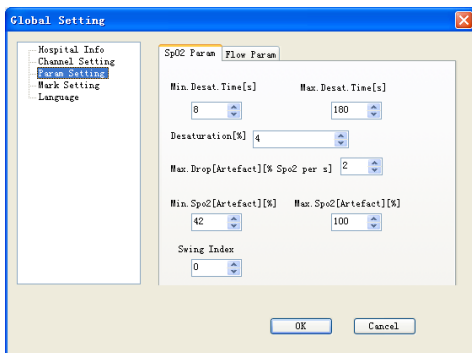

Figure 5-2-3
- 3) There are two interfaces (SpO₂ and flow) in “Param Setting”, you can set up the parameter value in the respective interface (as Figure 5-2-3).